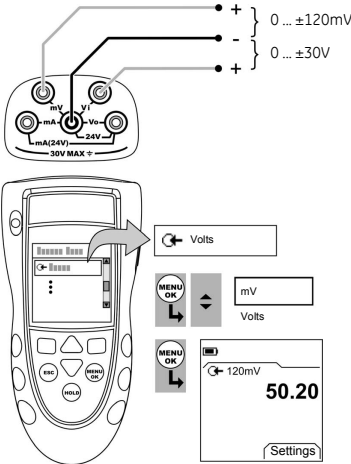

Figure 1: Example configuration - To measure mV or Volts
1. Connect the instrument (Figure 1) and, if necessary, adjust the *Set Up* (Table 1).